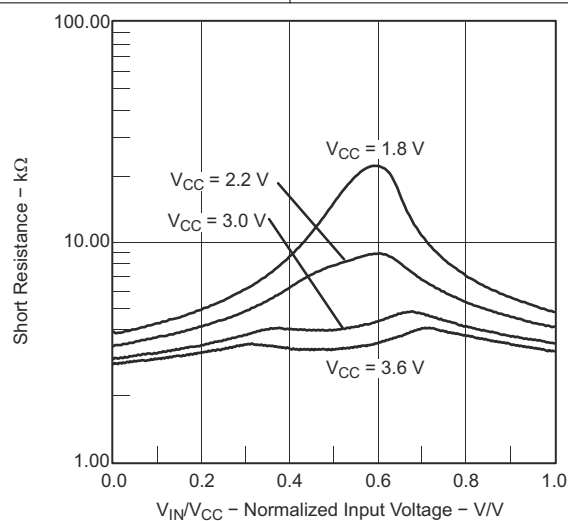

Figure 8-37. Short Resistance vs V_{IN}/V_{CC}
(2) Also see Figure 8-34 and Figure 8-37.
(3) The input offset voltage can be cancelled by using the CAEX bit to invert the Comparator_A+ inputs on successive measurements. The two successive measurements are then summed together.